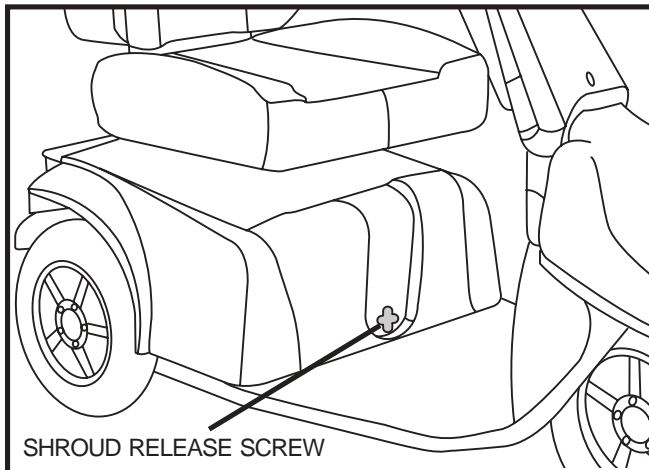

Figure 16. Shroud Release Screw
3. Remove the shroud release screw. See figure 16.